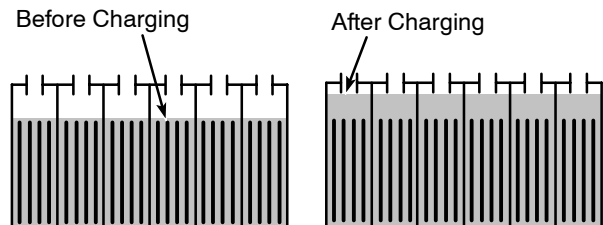

FIG. 63
1. Check battery fluid level frequently to prevent battery damage. The fluid should be at the level shown (Figure 63). Add distilled water if low. DO NOT OVERFILL, the fluid may expand and overflow when charging.